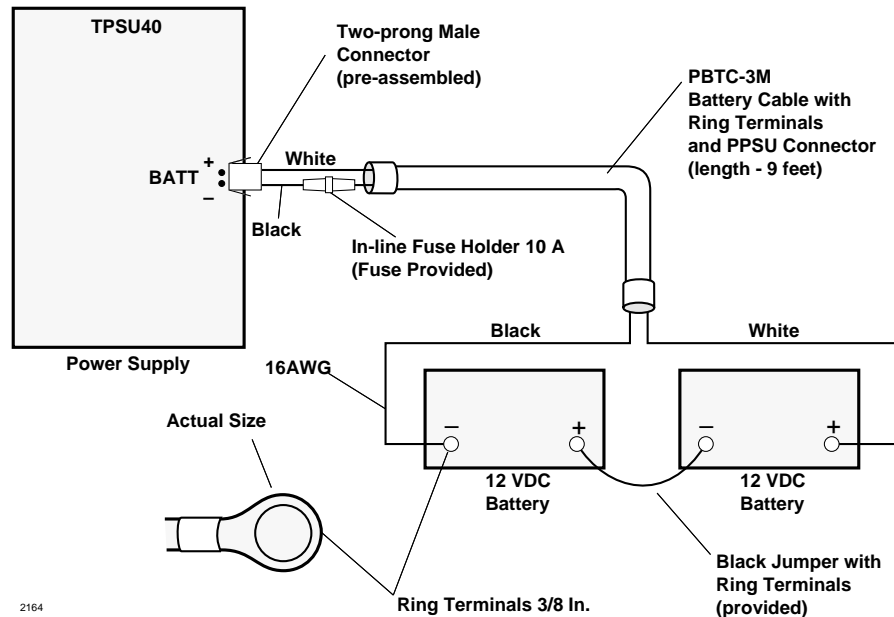

Figure 3-12 System Power Supply Wiring
A reserve power source (two customer supplied 12-volt batteries) can be connected to the DK40i power supply to ensure uninterrupted system operation in the event of a power failure. A pre-assembled interface cable for installation of the Reserve Power option is available from Toshiba (PBTC-3M), see Figure 3-12.
1. Connect the PBTC-3M black jumper wire from the positive terminal of one 12VDC battery to the negative terminal of the second 12VDC battery. See Figure 3-12.